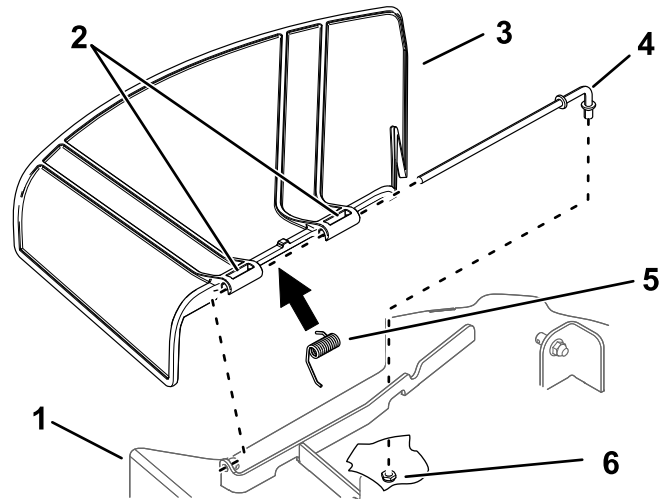

Figure 67
- Remove the nut (3/8 inch) from the rod under the mower (Figure 67).
- Slide the rod out of the short stand-off, spring, and grass deflector (Figure 67).
- Install the new grass deflector (Figure 67).
7. Slide the rod through the second grass-deflector bracket (Figure 67).
9. Secure the rear end of the rod into the mower with a nut (3/8 inch) as shown in Figure 67.